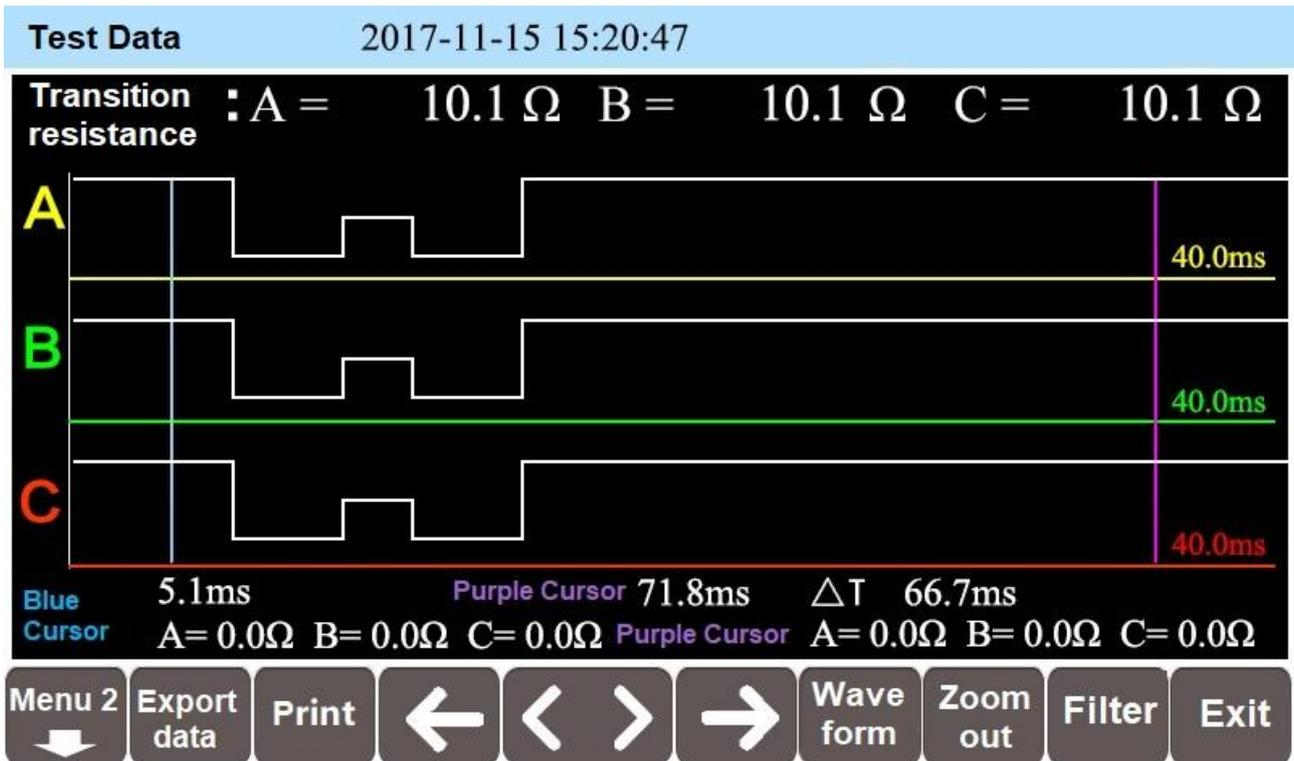

Figure 8
3.1 Data record: select a data record in the main menu, and lightly touch the "Historical Record" on the right side to view the stored test data, as shown in Figure 8. Lightly touch the corresponding record to view waveforms.
To observe the resistance value of each segment of waveform, it is needed to move cursor 2 to the waveform segment to be observed (a flat and straight position shall be selected), as shown in Figure 8: